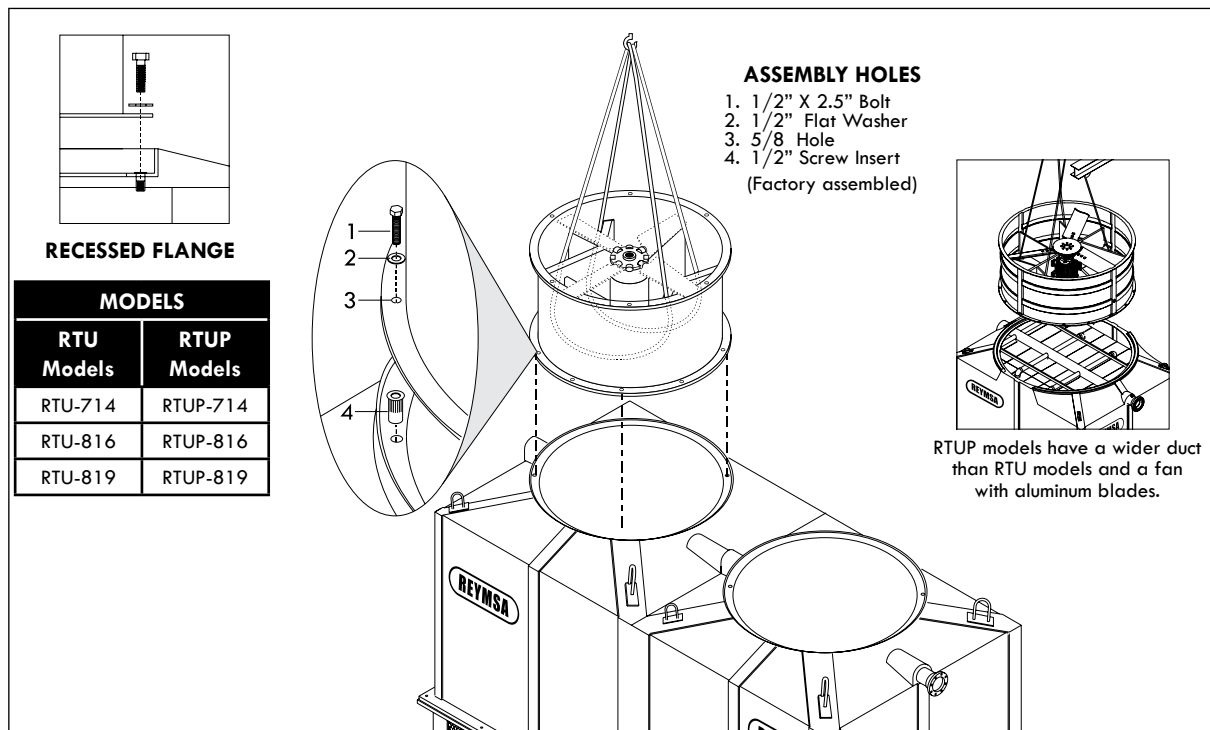

Figure A-40: Fan Duct assembly for a Two Fan Tower
- K. Then cradle/straddle the fan support with the straps (as shown in figure A-40) so you can lift the fan duct with a crane and assemble it.
- L. Identify each fan duct, they are labeled with a number on the inside of the lower edge. For a correct installation, this number must match the number on the distribution manifold of the corresponding body section. Now place fan duct 1 on the correspondent receiving flange on top of the Tower; make sure the bolt holes and the marks inside the fan duct and the receiving flange are aligned (Figure A-40 and A-41). Secure it with the stainless steel nut and bolt sets supplied by REYMSA.